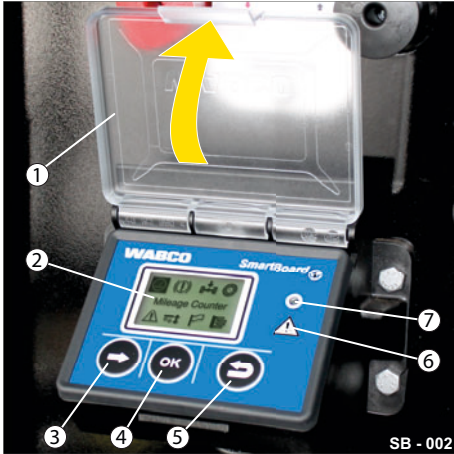

Abb. 3 SmartBoard opened
- ▶ Open the protective cover (Abb. 3/ 1).
- ▶ Use the selector button to choose the corresponding function (Abb. 3/ 3).
- ▶ Press the OK button to confirm the corresponding function (Abb. 3/ 4).